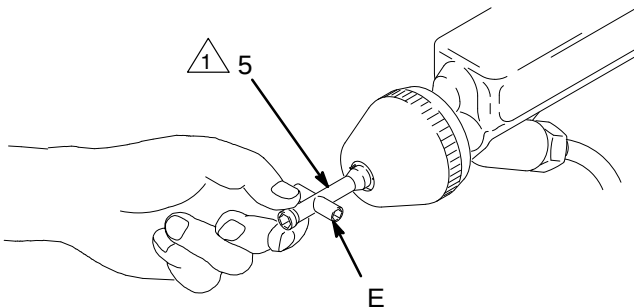

Fig. 3
5. Install the spray tip (4) and tighten it, using the wrench (5) provided. See Fig. 3. When tightening, only grip the end of the wrench with your fingers; do not grip the wrench cross-arms (E).
NOTE: Use the wrench (5) provided to remove the spray tip. See Fig. 3.